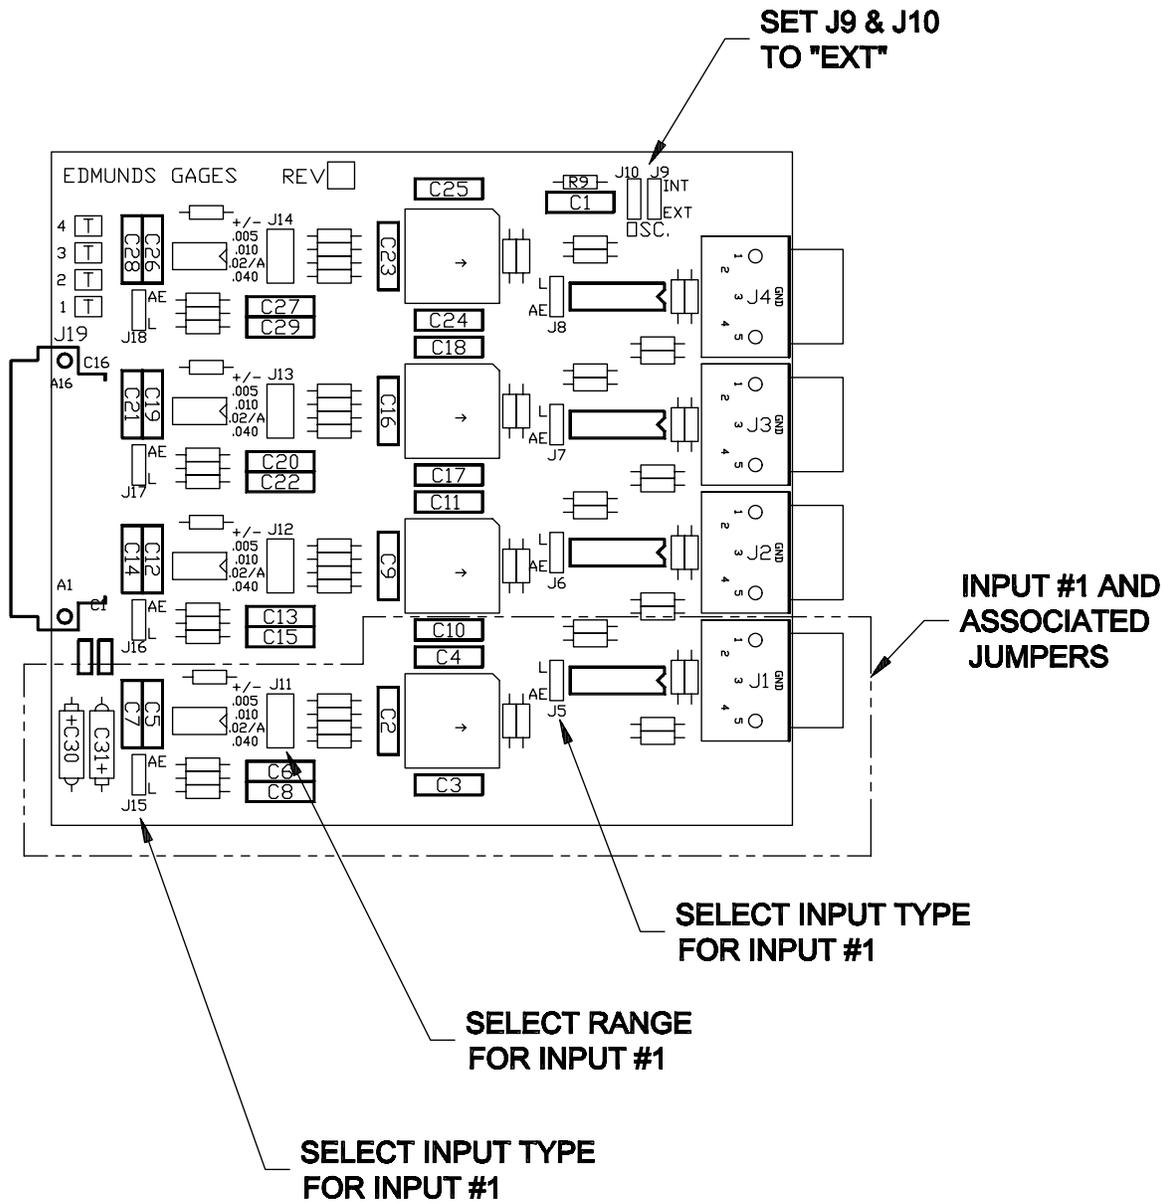

FIGURE 6.1 - SIGNAL CONDITIONING CARD #7200010
- 3) Each of the four inputs on the card has three jumpers associated with it that must be set. (See figures 6.1 and 6.2 for jumper locations.) For input number one locate the two jumpers, J5 and J15, labeled “L” and “AE”. If the input is being used by an LVDT set **both** the jumpers to “L”. If the input is being used by an A/E input set **both** jumpers to “AE”. The third jumper is used to set input range. For input number one this is jumper J11. **NOTE:** If the input type is “AE” the range jumper **must** be set to “.02/A”. If the input type is set to “L”, any of the four ranges (+/- .005, +/- .010, +/- .02/A, or +/- .040) can be selected.